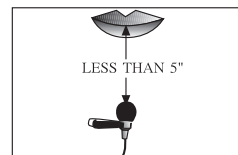

Figure 2
2. The optimal distance of sound pickup between sound source and lavalier microphone is within 5 ". (Figure 2)
2. Adhere the sticker to the reserve side of the plate to cover the hole. Pass cable through one fissure on the sticker and adhere the sticker to the relief outline on the plate center. (Figure 2)
2. Adjust the mic. shaft to aim microphone at precise sound source position, recommended distance between the microphone and the drum surface is 2 inches. (Figure 2)